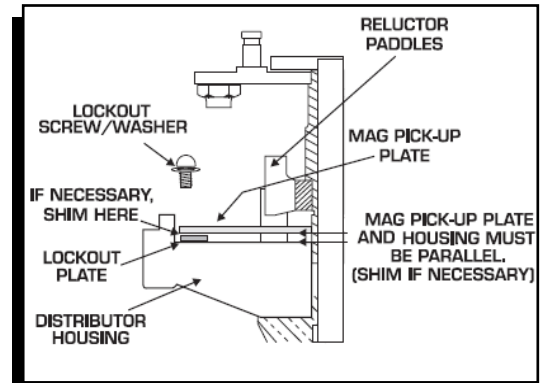

Figure 5 Checking Installations of the Lockout Plate
- f. It is important to make sure the pickup plate is parallel with the housing of the distributor (Figure 5). If it is cocked or slanted, the paddles of the reluctor may contact the pickup.